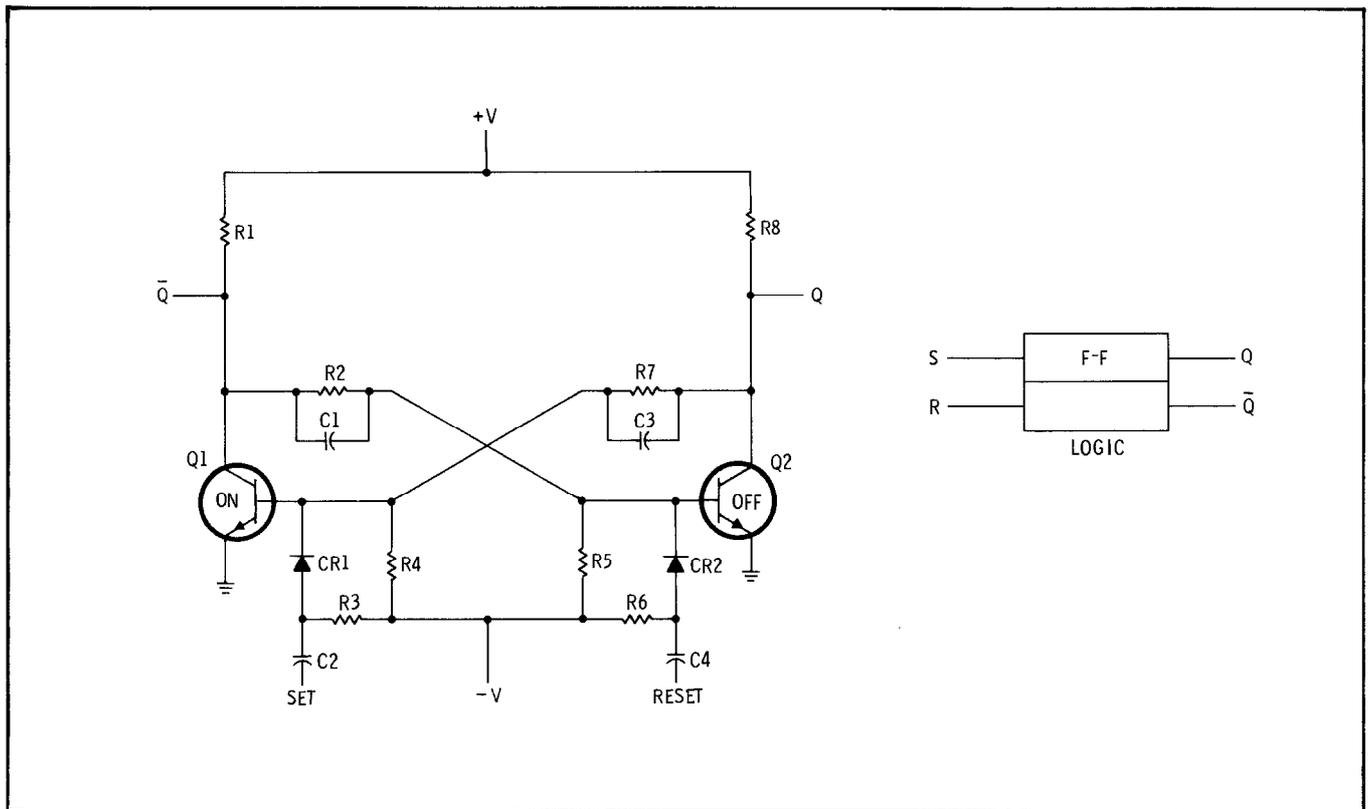

Figure 8-7. RS Flip-Flop
8-38. RESET-SET (RS) FLIP-FLOP. Figure 8-7 shows an RS flip-flop. The RS flip-flop has two inputs, S for Set and R for Reset (sometimes labeled S for set and C for clear). Assume that initially Q is high (Q2 off) and \bar{Q} is low (Q1 on). In this state the flip-flop is set and a positive pulse at the set input will not affect the circuit. When a positive pulse is applied to the reset input it is coupled through C4 and CR2 to the base of Q2. Q2 begins to conduct and the negative going collector voltage is coupled through C3 to the